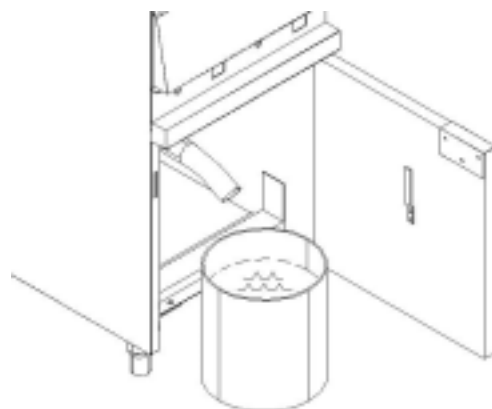

Figure 5. Draining The Kettle
7. Open the front door and mount the drain extension to the drain ball valve. Position a container (bucket) capable of holding **HOT** cleaning solution beneath the end of the drain extension to hold the cleaning solution being drained, as shown in Figure 5.